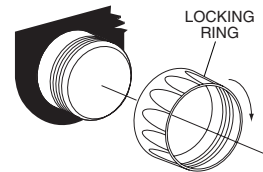

Figure 2
- Tighten locking ring on gauge in clockwise direction until gauge is tight against dashboard. Tighten locking ring **HAND TIGHT ONLY**. SEE FIGURE 2.